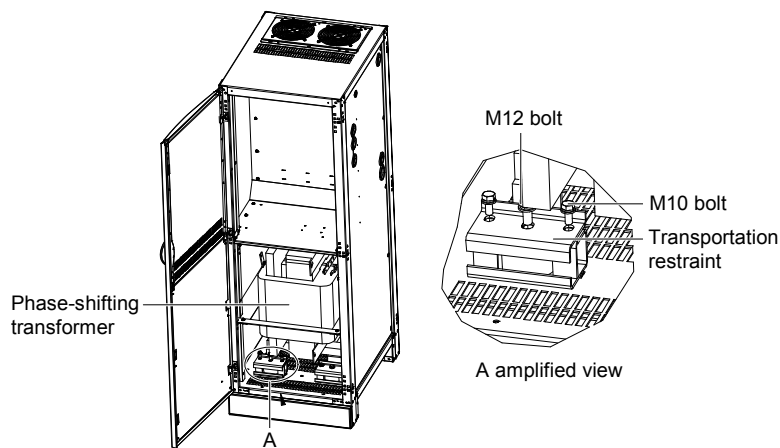

Figure 6 Removing the phase-shifting transformer transportation restraints
2. There are two transportation restraints respectively in the front and at the back, totally four, at the bottom of the phase-shifting transformer. Remove the two M10 bolts at both sides and one M12 bolt in the middle of each transportation restraint, as shown in Figure 6. Remove the four transportation restraints, and then reinstall the four M12 bolts in their original positions.